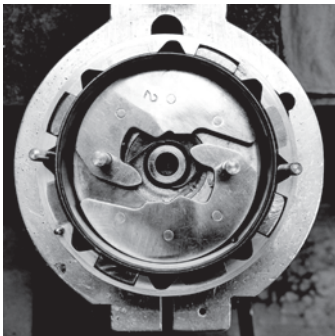
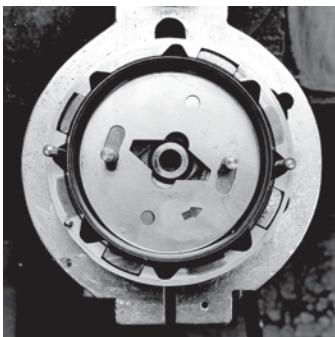

Fig. 3
Fig. 4
3. Place the spring weights into the advance cup (Fig. 3).
4. After installing the spring weights (Fig. 3), place the limit plate over the studs with the arrow facing the direction as shown (Fig. 4).